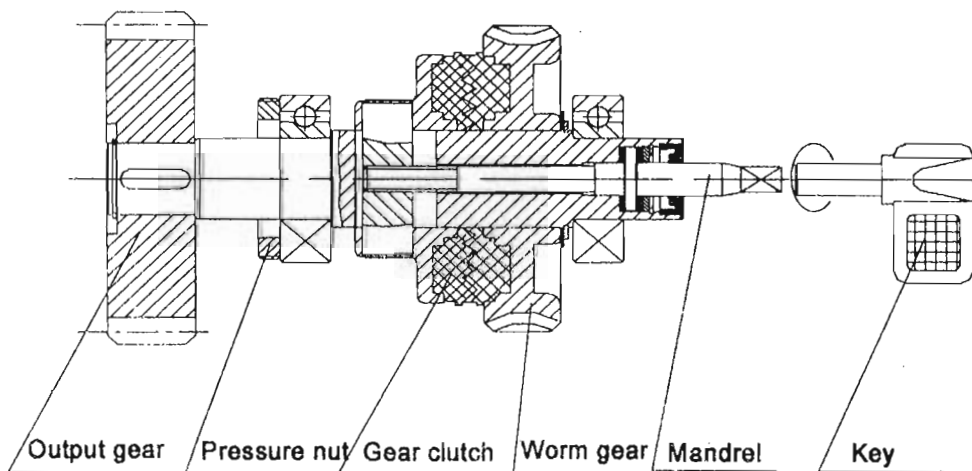

Fig.3
- The structure of the worm gear components is shown in Fig.3. It includes a pair of plastic gear clutches, in case of power failure you